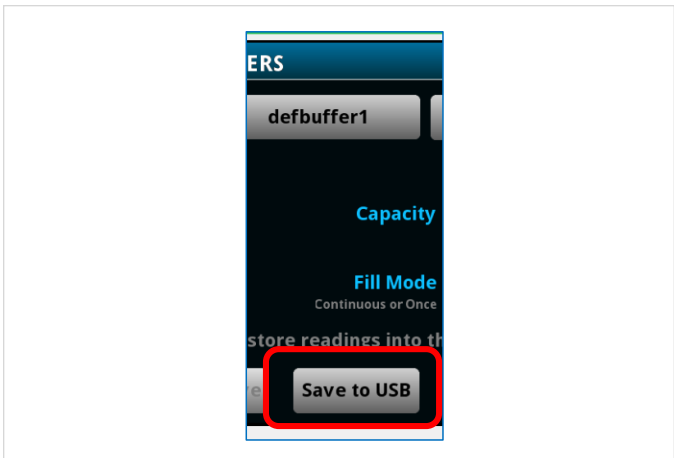

Figure 6: Save to USB.
- Touch the **Save to USB** button in the lower right corner of the display (**Figure 6**).